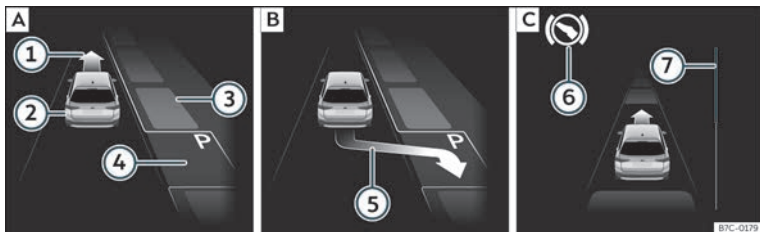
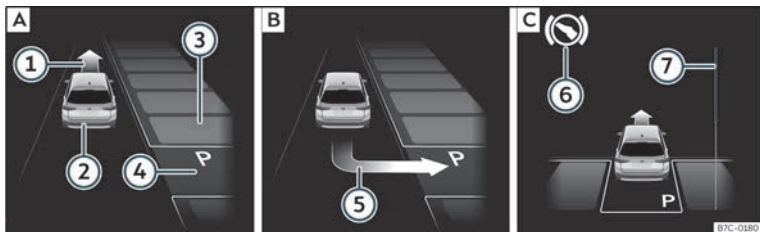

Fig. 235 On the instrument panel display: parallel parking. **A** Finding a parking space. **B** Parking position. **C** Manoeuvring.
Fig. 236 On the instrument panel display: angle parking. **A** Finding a parking space. **B** Parking position. **C** Manoeuvring.
- Look at the display on the instrument panel to see if the space has been detected as “appropriate” and if the correct position for parking has been reached >>> **Fig. 235 B**
or >>> **Fig. 236 B**. The space is considered “appropriate” if the display on the instrument panel shows the message to park ⑤.
- Reverse until the continuous ParkPilot signal sounds; **OR:** reverse until the indication to move forward appears on the instrument panel display >>> Fig. 235 [C] or >>> Fig. 236 [C]; **OR:** reverse until the **Park Assist finished** message appears on the instrument panel display. The progress bar ⑦ indicates the distance to cover >>> page 288.
- Press the brake pedal until the parking assist system completes the steering wheel turns; **OR:** until the symbol (S) goes out on the instrument panel screen.
- Move forward until the continuous ParkPilot signal sounds; **OR:** move forward until the reverse indication appears on the instrument panel display. The Park Assist system steers the vehicle forward and back until it centres it in the space >>> Fig. 235 [C] or >>> Fig. 236 [C].
>>> Fig. 235 ⑦ and >>> Fig. 236 ⑦ on the screen of the instrument panel displays the relative distance to be covered. The greater the distance, the fuller the progress bar. When driving forward, the content of the progress bar decreases upwards, and when reversing, it decreases downwards.